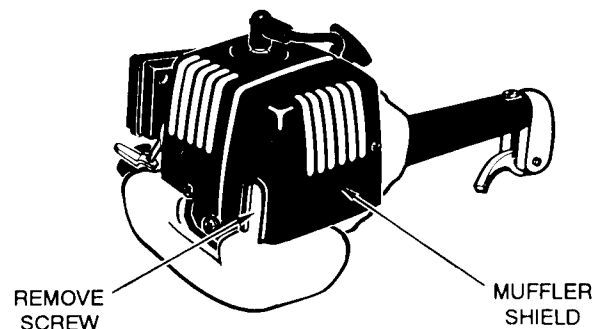

Figure 8-8A
1. To replace spark arrester screen, remove the retaining screw and screen cover. Discard old screen. Install new screen. (Figure 8-8A & 8-8B)